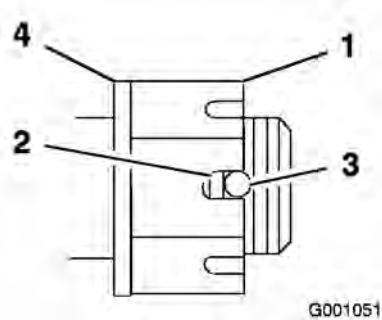

Figure 49
4. Torque the slotted nut to 125 ft-lb (170 N·m) (Figure 49).
5. Check the distance from bottom of slot in nut to inside edge of hole. Two threads or less should be showing (Figure 49).
7. Torque the slotted nut to 125 ft-lb. (170 N·m) (Figure 49).
8. Tighten the nut until the next set of slots line up with the hole in the shaft (Figure 49).